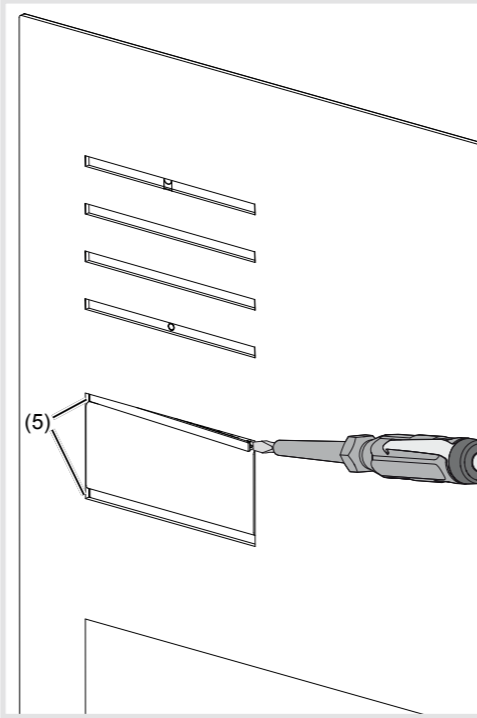

Figure 14: Removal of cover strips
- Lever up the interlocking cover strips (5) at the top and bottom using the screwdriver and remove (Figure 14).